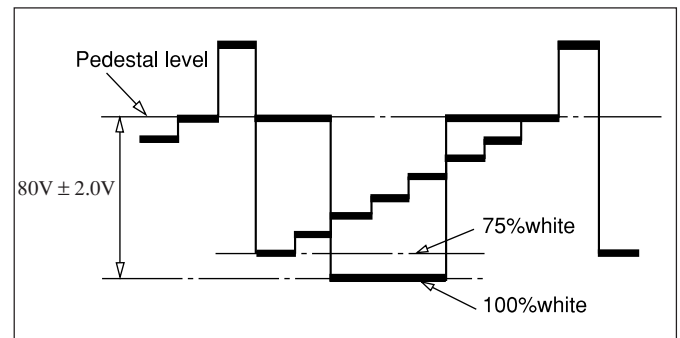

Fig. 3-2
2. Using the volume keys on the jig remote controller, adjust the voltage between pedestal level and 100% white to $80V \pm 2.0V$ as shown in the Fig 3-2.